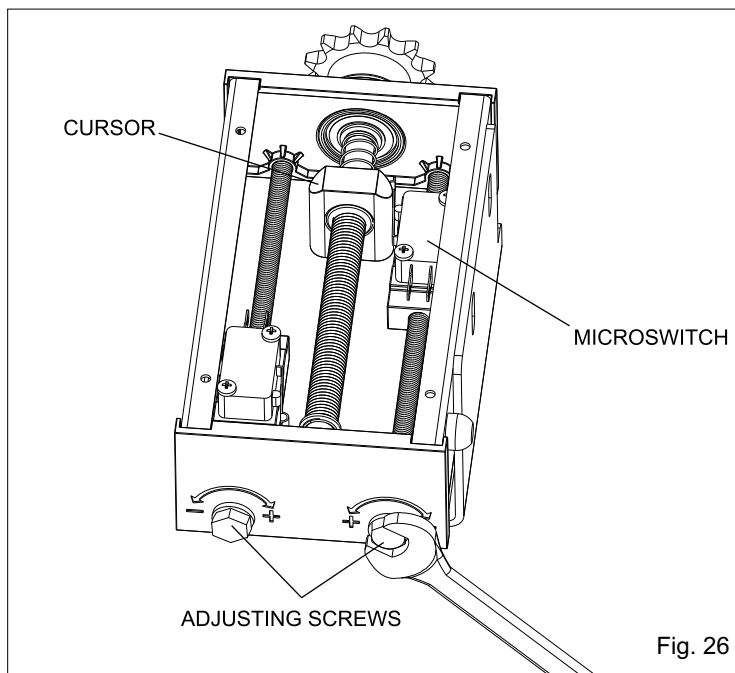

Fig. 26
- act on the adjusting screw so that the microswitch can activate the contact with the cursor (Fig. 26)